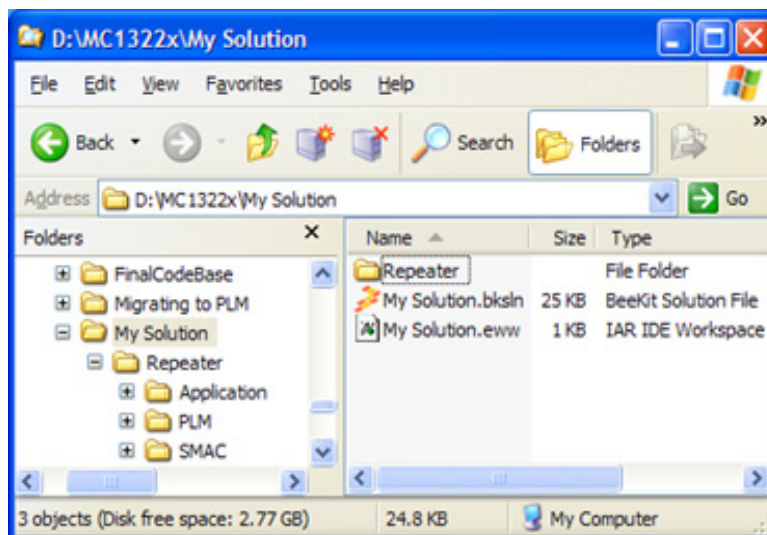

Figure 8-2. Opening Repeater Work Space
1. Using the IAR Embedded Workbench, open the Repeater work space (`My Solution.eww`) as shown in Figure 8-2.